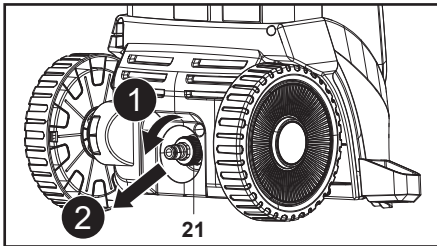

Fig. 19
1. Remove the water inlet adaptor (21) from the water inlet connector (13) (Fig. 19).